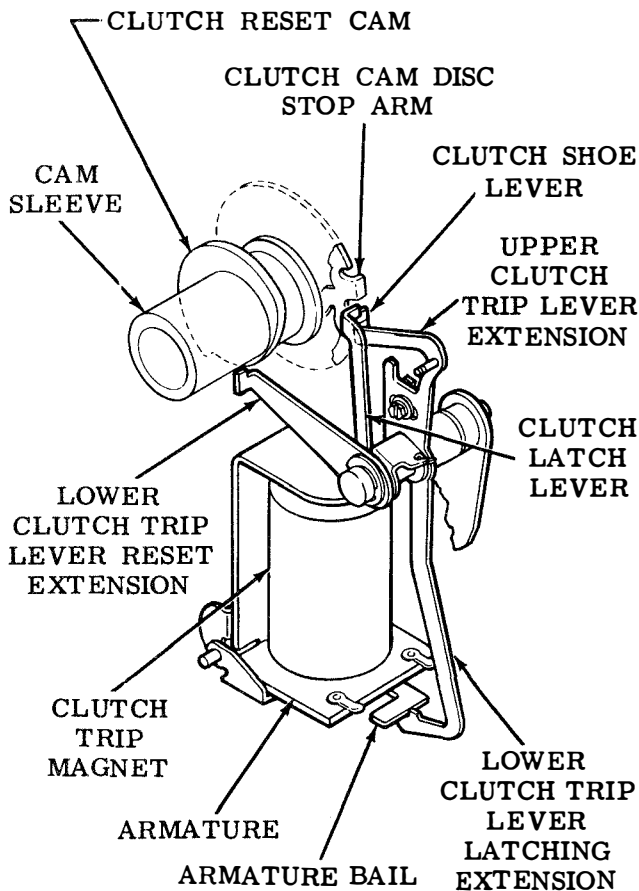
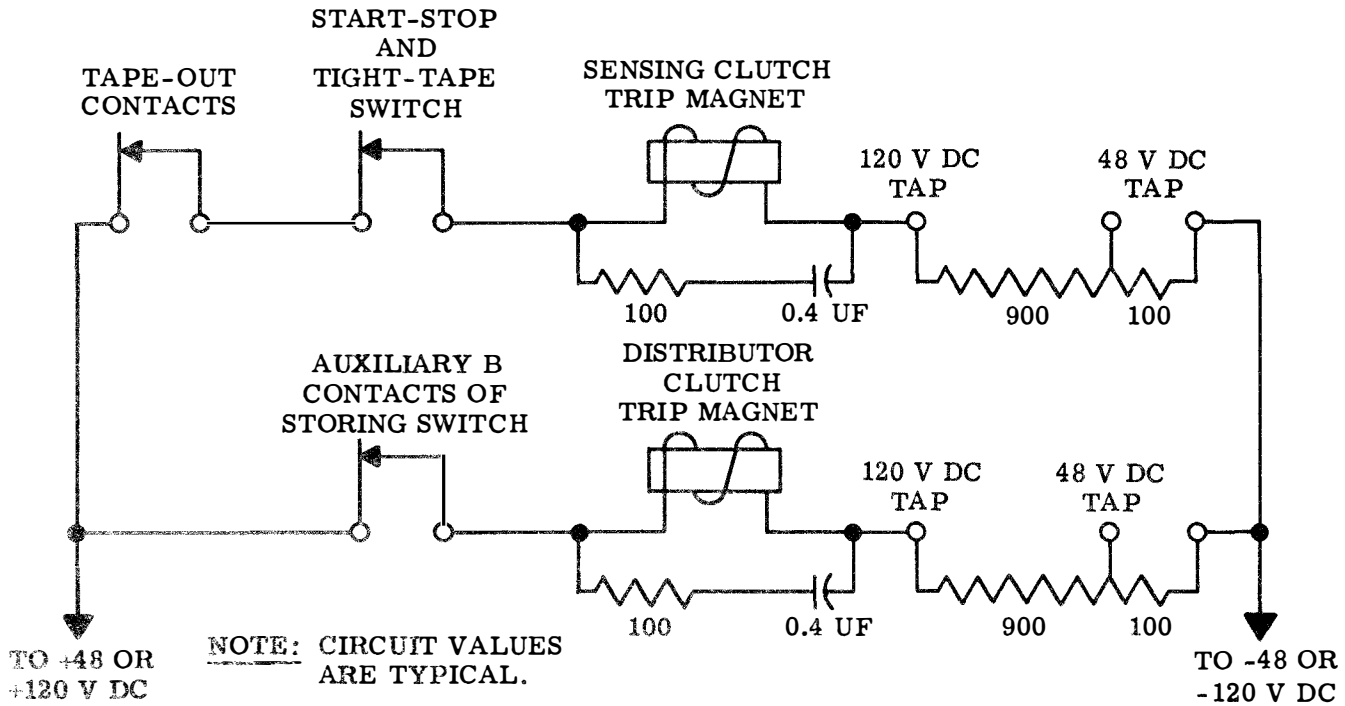

Figure 7 - Clutch Trip Mechanism
Figure 8 - Clutch Trip Magnet Circuits
the signal circuit. The clutch trip magnet circuit consists of the clutch trip magnet coils in series with both the start-stop and tape-out contacts. See Figure 8.
6.01 The distributor and sensing clutch trip mechanisms are identical (Figure 7). Clutch tripping is accomplished by closing the electrical contacts of the respective clutch trip magnet circuit (Figure 8).
6.05 The respective clutch is reset (disengaged) if the corresponding clutch trip magnet circuit is opened. The clutch reset cam of the cam sleeve cams the lower reset extension of the clutch trip lever. The moving lower clutch trip lever latching extension is latched in the reset position by the armature bail as shown in Figure 7. The moving upper clutch trip lever
8.01 The distributor cam sleeve begins its rotation after the auxiliary B contact in the sense storing switch. This action energizes the distributor clutch trip magnet (Figure 8). As the distributor cam sleeve rotates, the cams open and close contacts on the distributor mechanism distributor block for a predetermined interval. A sequential signal is distributed on the signal line corresponding to the character set up in the sense storing switch but also including a start and a stop bit. This cycle is repeated if the sensing clutch magnet remains energized.
10.01 Positioning the start-stop lever in the STOP position rotates the start-stop bail enough to actuate the start-stop and tight-tape switch, causing a break in the sensing clutch trip magnet circuit (Figures 8 and 12).